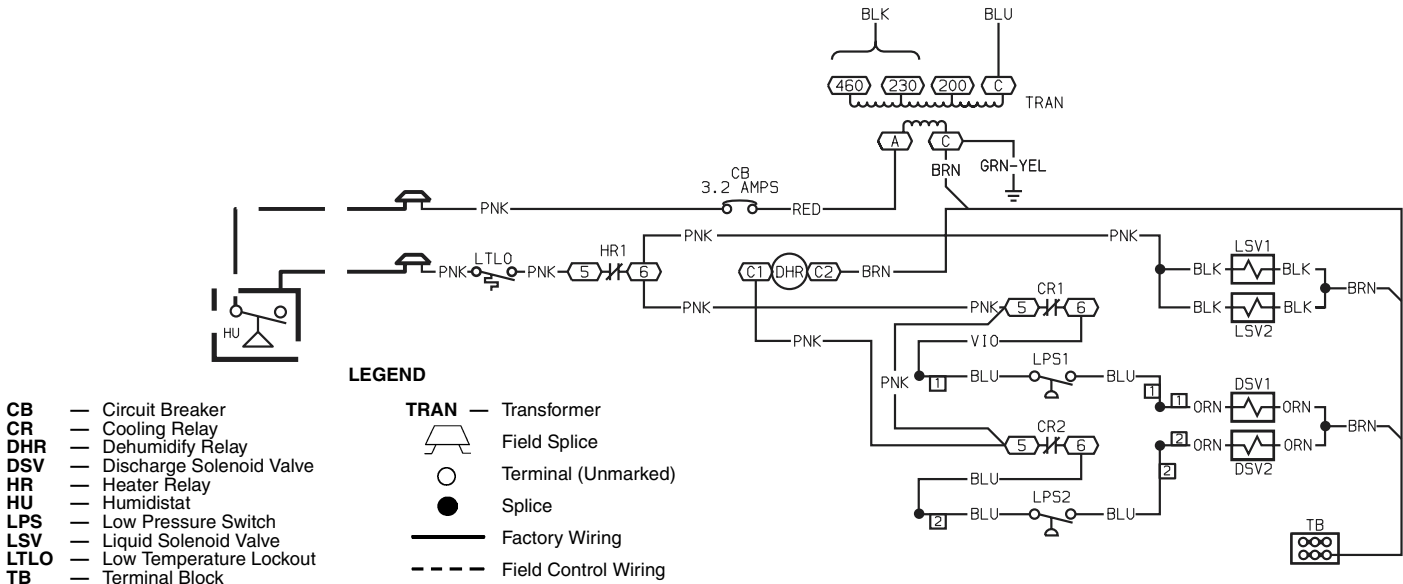

Fig. 13 — Typical Perfect Humidity Dehumidification System Humidistat Wiring (208/230-v Unit Shown)
- Use a wire nut to connect humidistat cable into low-voltage wiring as shown in Fig. 13.